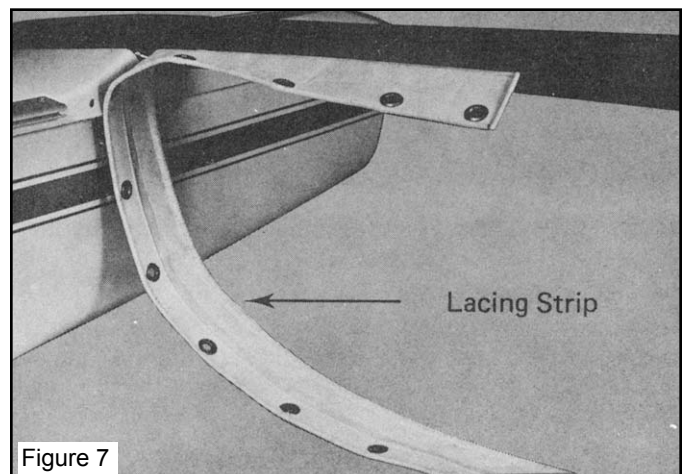

Figure 7
1. Install the aft lacing strip. Feed the lacing strip into the rear cross bar at the right just inside the hull where the track has been cut away. See Figure 7. Center it on the rear cross bar.